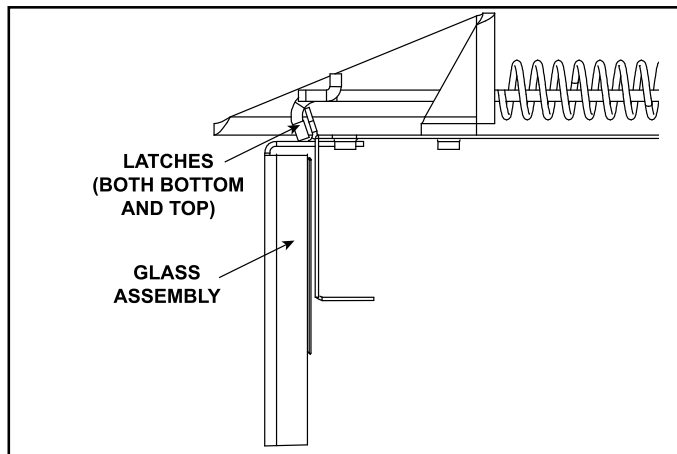

Figure 9.19 - Fixed Glass Assembly
- Pull the four glass assembly latches out of the groove on the glass frame. Remove glass door from the appliance (see Figure 9.19).